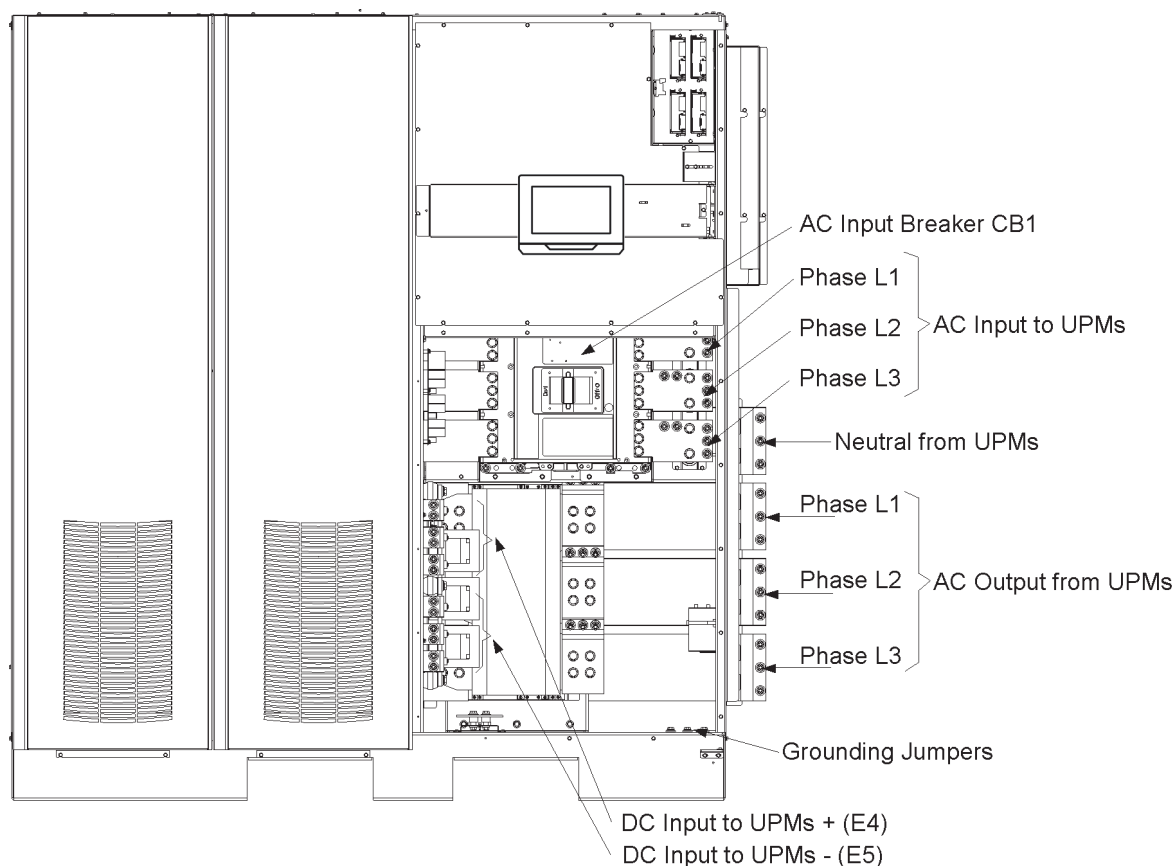

Figure 4-6. UPS ISBM section intercabinet power terminal locations
5. Locate the CB1-2/UPMx, CB1-4/UPMx, CB1-6/UPMx power wiring harnesses. Route these harnesses through the wiring access in the right side panel of the ISBM section to the AC Input to UPMs terminals. See Figure 4-6 on page 42 for terminal locations.
8. Locate the E4/UPMx and E5/UPMx power wiring harnesses. Route these harnesses through the wiring access in the right side panel of the ISBM section to the DC input to UPMs terminals. See Figure 4-6 for terminal locations.
10. Locate the E12/UPM_x, E9/UPM_x, E10/UPM_x and E11/UPM_x power wiring harnesses. Remove wire ties as necessary to enable routing cables to the ISBM AC output from UPMs terminals. See Figure 4-6 for terminal locations.